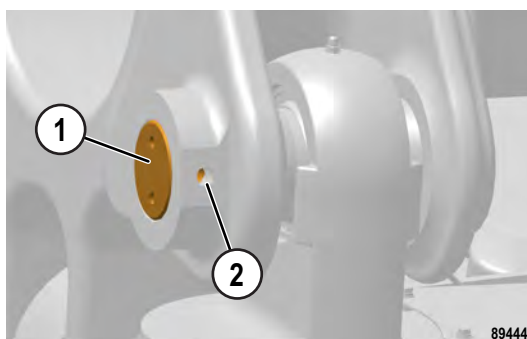

FIGURE 50-46. UPPER PIN INSTALLATION
11. Push pin (1, Figure 50-46) until the shoulder bolt hole in the pin is aligned with shoulder bolt hole (2) in the outer frame mounting ear.